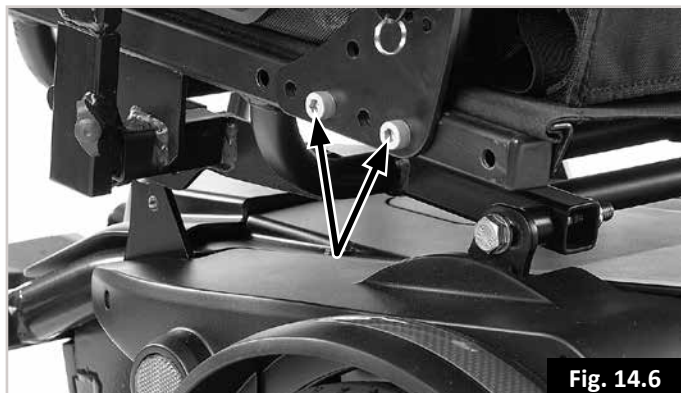

Fig. 14.6
14.6 Seat depth adjustments: (Fig. 14.6).